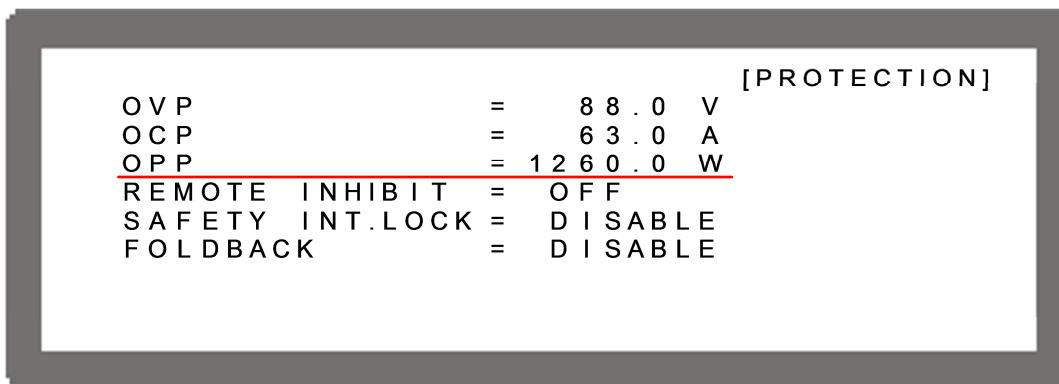

Figure 3-77
1. Use the “ $\leftarrow\uparrow$ ”, “ $\rightarrow\downarrow$ ” keys to move the cursor to the column to be set as shown in Figure 3-77.